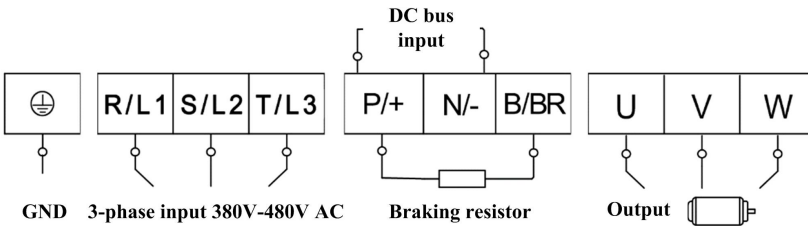

Fig 3-4 Power terminals sketch
3) Power terminals sketch of inverter with 3-phase 400V 0.75-15KW showed as below in Fig 3-4.